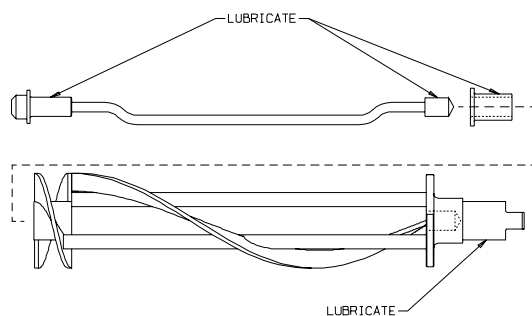

Figure 8-3 Lubricate bearing areas of breaker bar and bushing
3. Apply lubricant to the bearing areas of the breaker bar and bushing (figure 8-3).